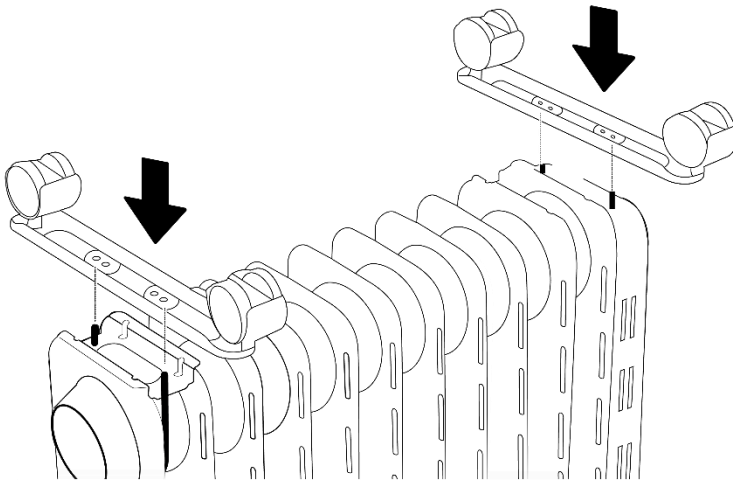

Fig. 1
2. As shown in Fig. 1, align the mounting holes on the caster assembly units with the screws on the caster pad plates, one at the bottom of the control panel and one at the bottom of the end radiator fin.